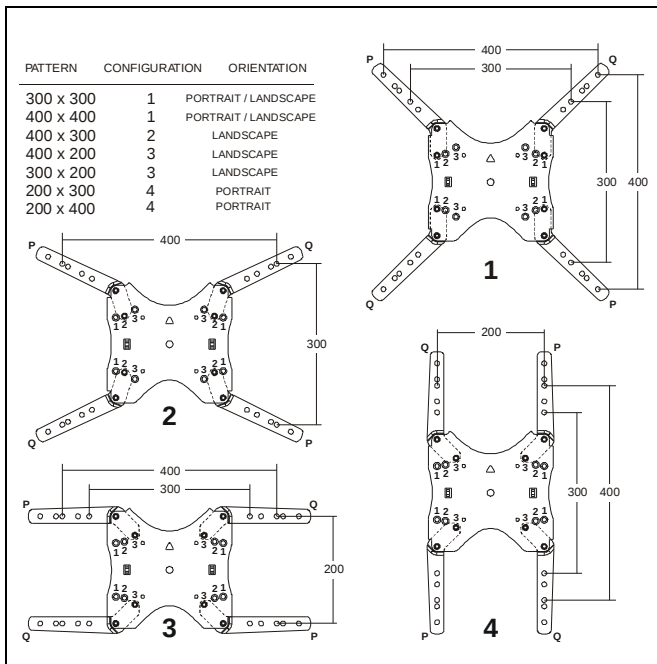
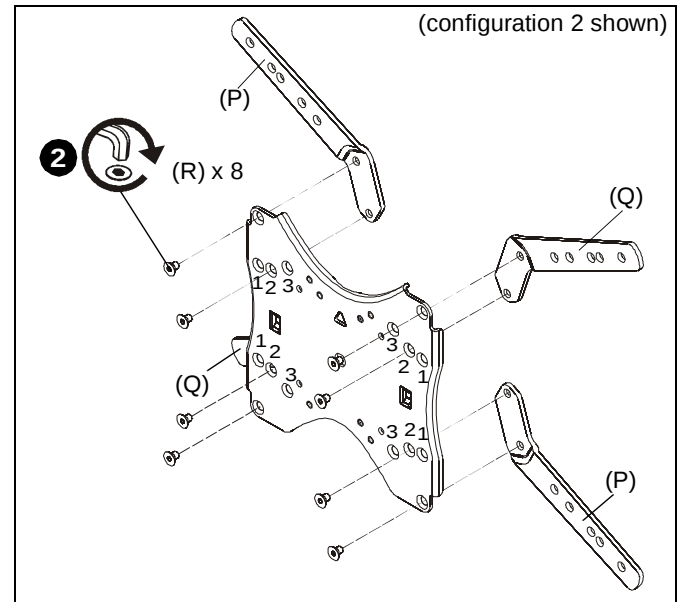
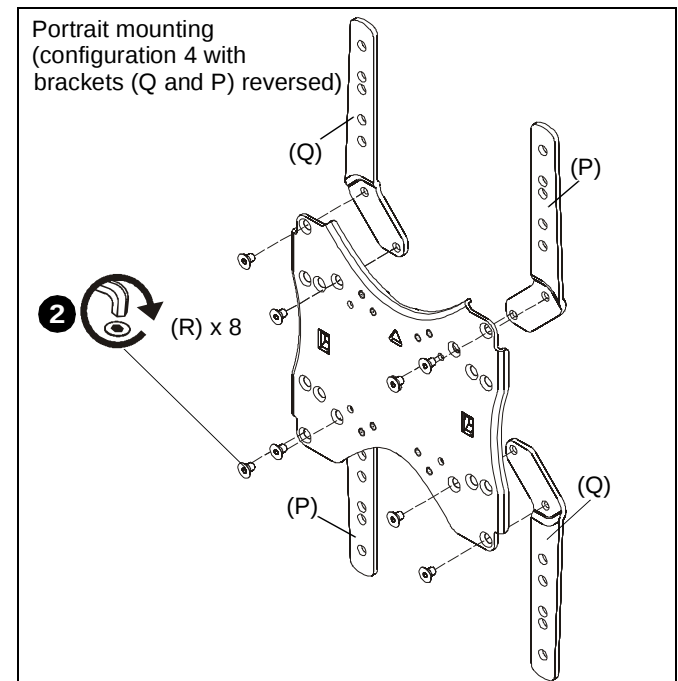

Figure 5
Figure 6
Figure 7
1. Refer to chart in Figure 5 or enclosed quick-install sheet to determine the configuration to follow to assemble interface brackets to faceplate.
2. Use 5/32" hex key (S) and eight 1/4-20 x 3/8" flat head cap screws (R) to connect top right brackets (P) and top left brackets (Q) to faceplate (H). (See Figure 6) or (See Figure 7) for portrait mounting
**NOTE:** If portrait mounting to a 200 x 300 or 200 x 400 mounting pattern, the interface brackets (Q and P) are reversed from the other orientations. (See Figure 5) and (See Figure 7)